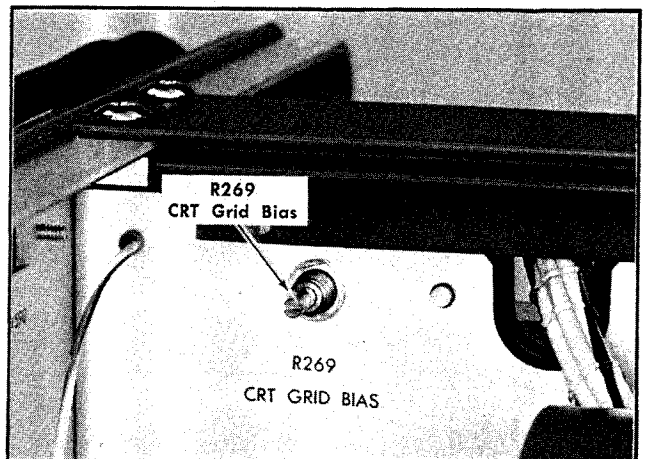

Fig. 5-4. Location of R269, CRT Grid Bias.
- d. ADJUST—R269, CRT Grid Bias (Fig. 5-4) clockwise until the trace can be seen, then rotate R269 counterclockwise until the trace just disappears completely. (It is best to view the CRT trace under low ambient light conditions or by using a viewing hood.)